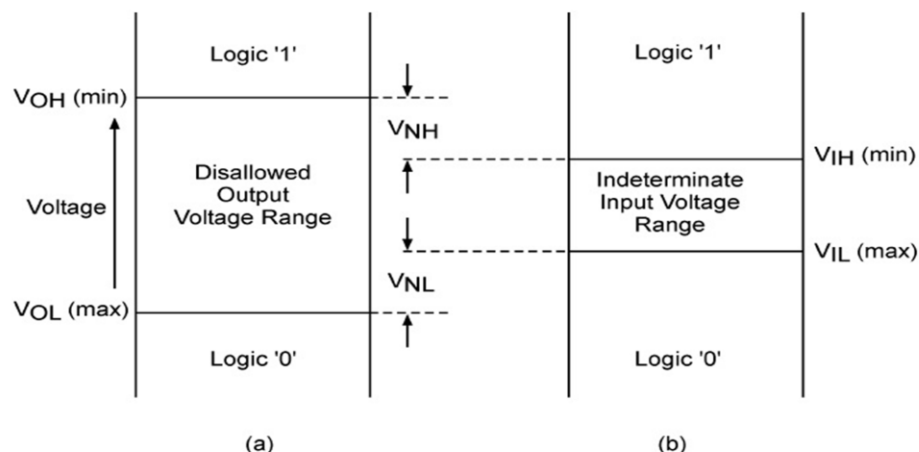

Fig.5
- 23- **Noise margin.** This is a quantitative measure of noise immunity offered by the logic family. Figure (5) shows the generalized case of legal HIGH and LOW voltage levels for output [Fig.5(a)] and input [Fig.5(b)]. As we can see from the two diagrams, there is a disallowed range of output voltage levels from $V_{OL}(\max.)$ to $V_{OH}(\min.)$ and an indeterminate range of input voltage levels from $V_{IL}(\max.)$ to $V_{IH}(\min.)$. Since $V_{IL}(\max.)$ is greater than $V_{OL}(\max.)$, the LOW output state can therefore tolerate a positive voltage spike equal to $V_{IL}(\max.) - V_{OL}(\max.)$ and still be a legal LOW input. Similarly, $V_{OH}(\min.)$ is greater than $V_{IH}(\min.)$, and the HIGH output state can tolerate a negative voltage spike equal to $V_{OH}(\min.) - V_{IH}(\min.)$ and still be a legal HIGH input. Here, $V_{IL}(\max.) - V_{OL}(\max.)$ and $V_{OH}(\min.) - V_{IH}(\min.)$ are respectively known as the LOW-level and HIGH-level noise margin. Let us illustrate it further with the help of data for the standard TTL family. The minimum legal HIGH output voltage level in the case of the standard TTL is 2.4 V. Also, the minimum legal HIGH input voltage level for this family is 2 V. This implies that, when the output of one device feeds the input of another, there is an available margin of 0.4 V. That is, any negative voltage spikes of amplitude.